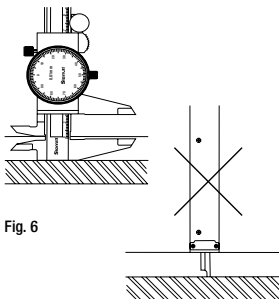

Fig. 6
- **Cam Measurement:** open the jaws slightly larger than the width of the cam, place the scribing face against the bottom of the cam. Move the scribing reference (11) face to the part surface (fig. 6)